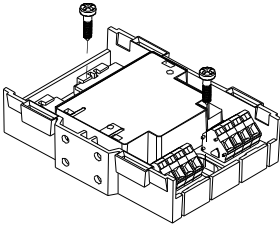

Fig. 2
- Installation directly in a switching cabinet or a control unit: mount the module on an even surface (Fig. 2).
- Fix module with two screws M4X15 (Fig. 2). Distance between holes: 63.5 ± 1.0 mm.